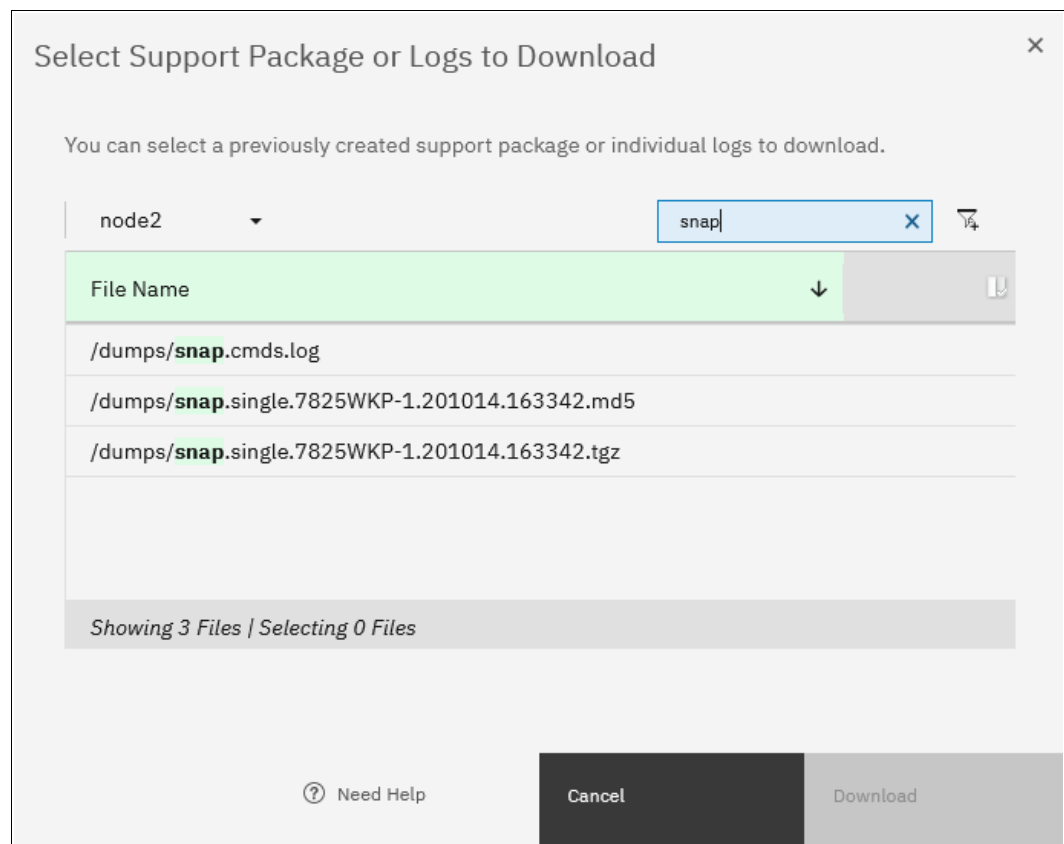

Figure 13-64 Filtering on snap to download
2. Click in the **Filter** box and enter snap to see a list of snap files, as shown in Figure 13-64. Find the exact name of the snap that was generated by running the `svc_snap` command that was run earlier. Select that file, and click **Download**.